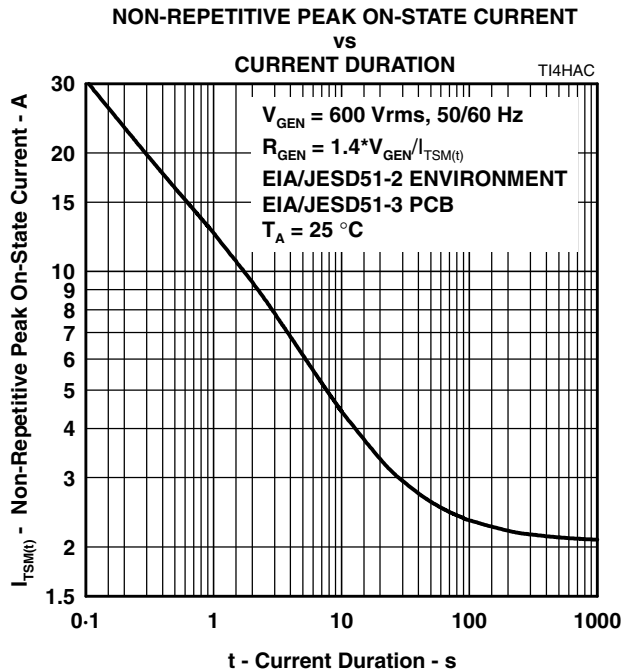

Figure 7.
5. EIA/JESD51-2 environment and EIA/JESD51-3 PCB with standard footprint dimensions connected with 5 A rated printed wiring track widths. See Figure 7 for the current ratings at other durations. Derate current values at $-0.61\text{ }^{\circ}\text{C}$ for ambient temperatures above $25\text{ }^{\circ}\text{C}$.
The protector can withstand currents applied for times not exceeding those shown in Figure 7. Currents that exceed these times must be terminated or reduced to avoid protector failure. Fuses, PTC (Positive Temperature Coefficient) resistors and fusible resistors are overcurrent protection devices which can be used to reduce the current flow. Protective fuses may range from a few hundred milliamperes to one ampere. In some cases, it may be necessary to add some extra series resistance to prevent the fuse from opening during impulse testing. The current versus time characteristic of the overcurrent protector must be below the line shown in Figure 7. In some cases, there may be a further time limit imposed by the test standard (e.g. UL 1459/1950 wiring simulator failure).